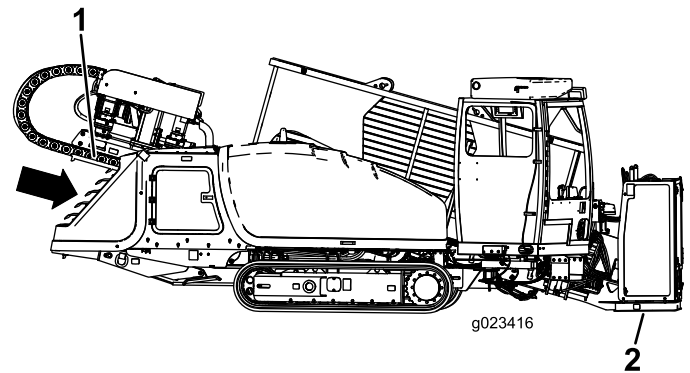

Figure 73
9. Lower the thrust frame, tilting the drill frame until the plate contacts the ground (Figure 73).